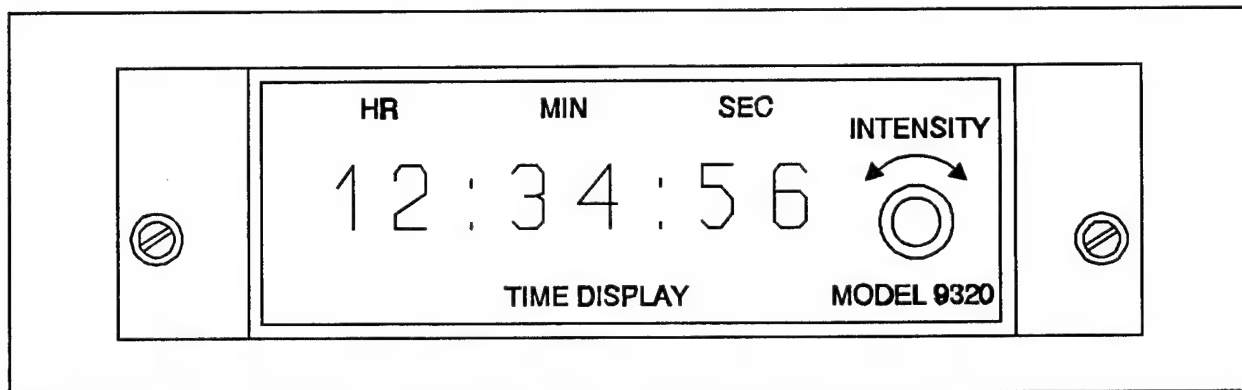

Figure 5-2. Range Time Display
A display for presenting range time (Figure 5-2) is located in each cockpit. In the front cockpit the time display is on the right console, and in the back cockpit it is on the left auxiliary console. This is a six-digit decimal display indicating UTC (Universal Time Coordinated) in hours (00-23), minutes (00-59), and seconds (00-59). This time is initially set ("jammed") into an on-board time code generator during Special Instrumentation (SI) preflight and will be available and current if DAS power is re-cycled.